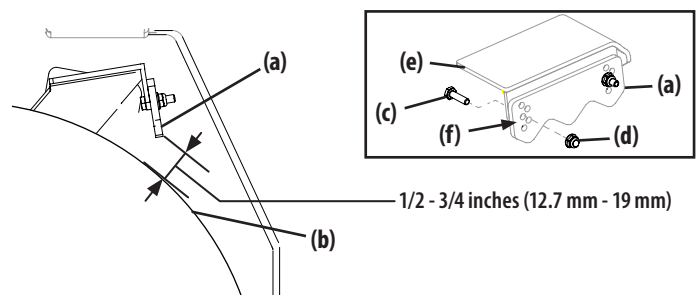

Figure 24
- With the parking brake disengaged, measure the gap between the brake wedge (a) and the rear tire (b) on both sides of the mower (Figure 24). This measurement must be 1/2 to 3/4 (12.7 mm - 19 mm).
- If necessary, perform the following to adjust the brake wedges (Figure 24):